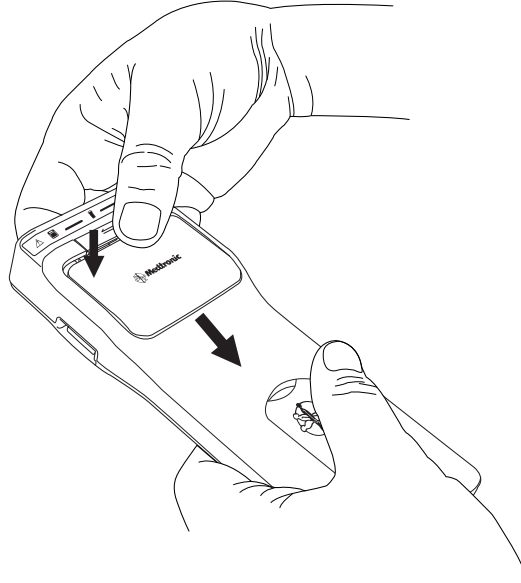

Figure 42. Battery compartment lid.
1. Release the battery compartment lid by sliding it downward (Figure 42).